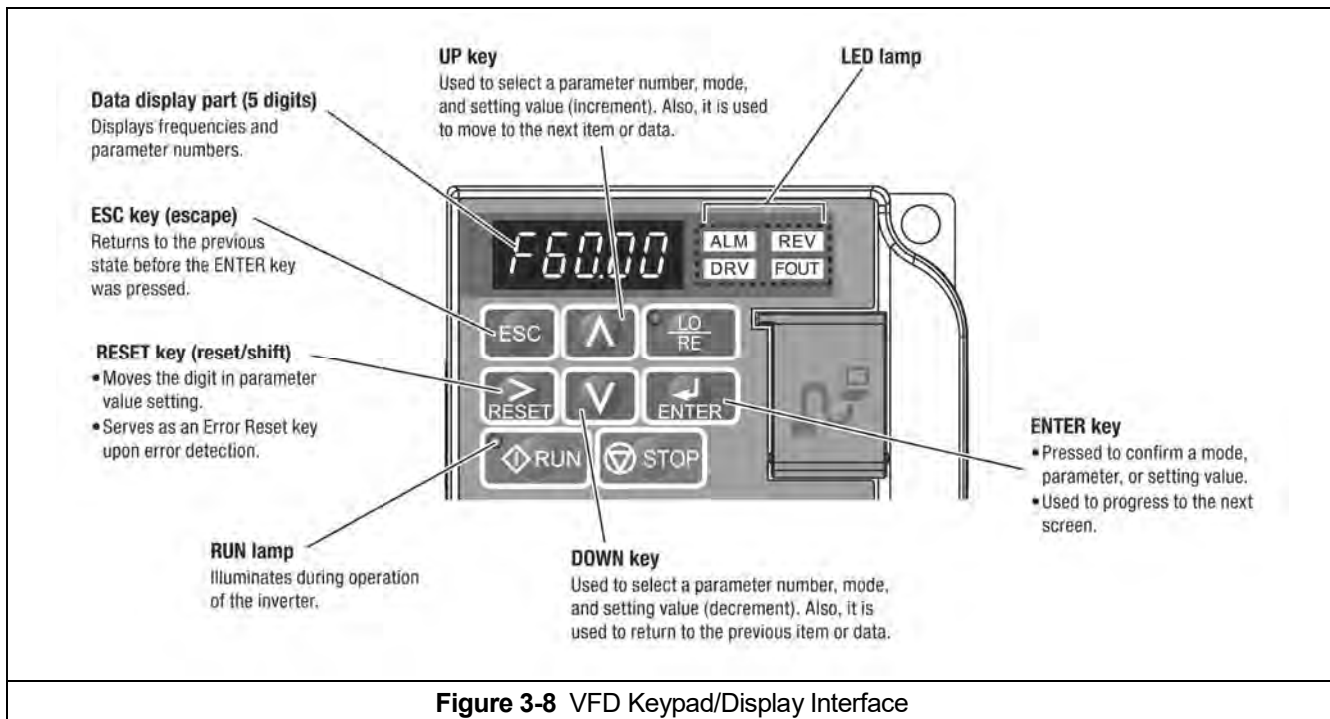

Figure 3-8 VFD Keypad/Display Interface
3.5.4 The VFD is controlled by a Keypad/Display Interface. Refer to Figure 3-8 for Keypad/Display Interface functions and descriptions.